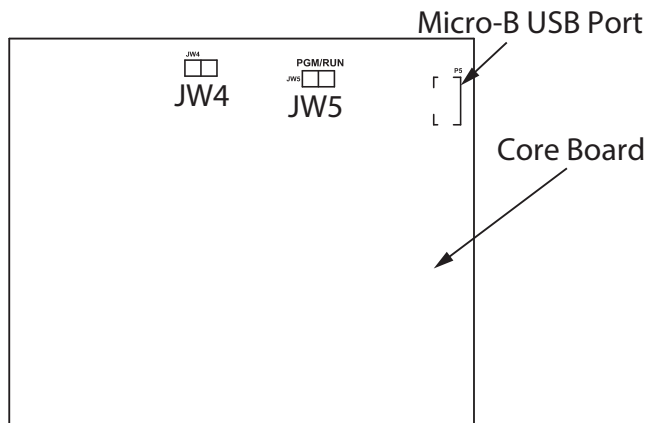

Figure 84 Micro-B USB Port on the core board
- c. Remove the jumper from JW4 on the plug-in core board and place it on JW5. See Figure 84 for a picture of the core board.
13. Remove the jumper from JW5 and place it on JW4. See Figure 84 for a picture of the core board.